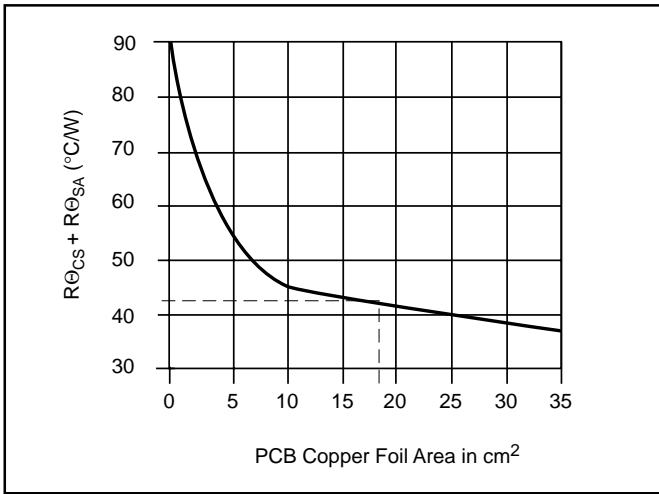

Figure 5B: Heatsink performance curve for PCB copper foil.
Step 2: Locate the value of the thermal resistance needed ($R\Theta_{CS} + R\Theta_{SA}$) on the Y axis in Figure 5B. Find the intersection of the Y value with the curve and then read down to the X axis. The value on the X axis is the total area of the heatsink that is required. In this case the area is 18cm². Each wing of the heatsink is 9cm² or 3cm on a side.